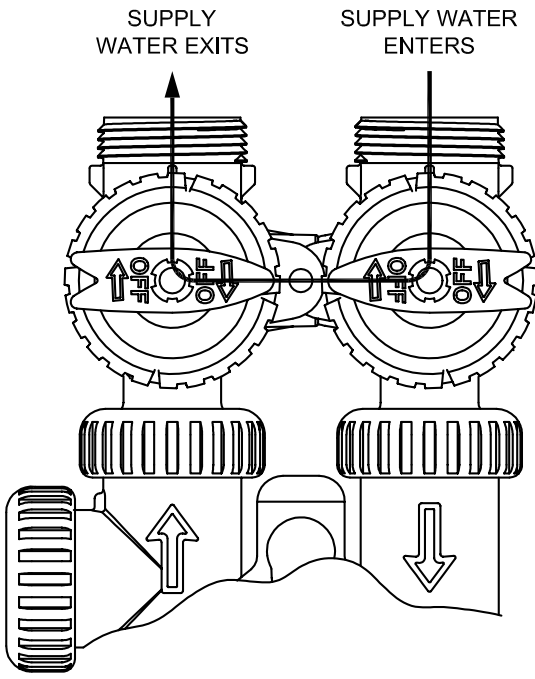

Figure 3
- 3. Diagnostic Position:** The inlet handle points in the direction of flow and the outlet handle points to the center of bypass valve, system water pressure is allowed to the control valve and the plumbing system while not allowing water to exit from the control valve to the plumbing. (See Figure 3)